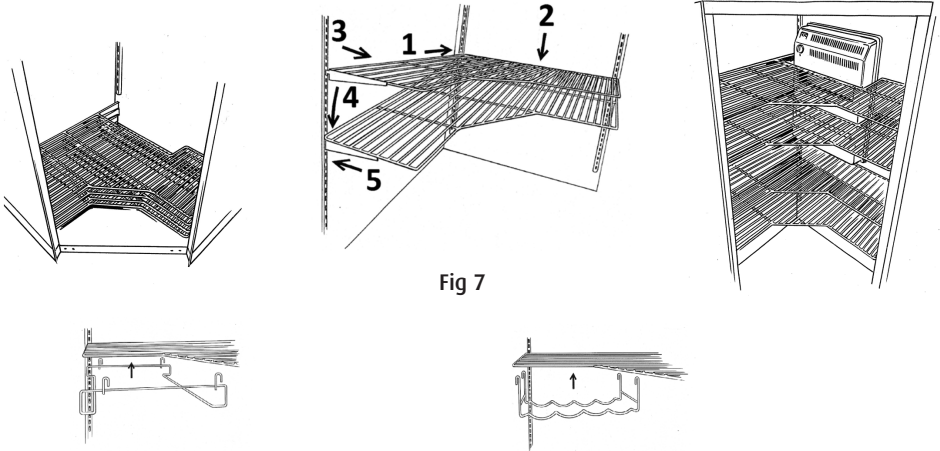

Fig 7
- Place the shelves on the floor in the corner, ensuring that those with a cut-out for the unit are at the top. Then secure the top shelf by tilting the shelf upwards to the left, fitting it into the 2 uprights on the wall of the unit. Hold down the shelf and secure it to the uprights, while pulling it towards you at the other end so that it engages in the groove on the third upright at the same height (see the middle illustration in Figure 7 below) Continue in the same way with the other shelves.
Keep a good distance between the floor and the bottom shelf to permit storage of crates etc. Make sure that the second shelf from the top does not interfere with the dust filter tray on the unit. Hang up the holder for bottles and breakfast tray. (Fig 7)